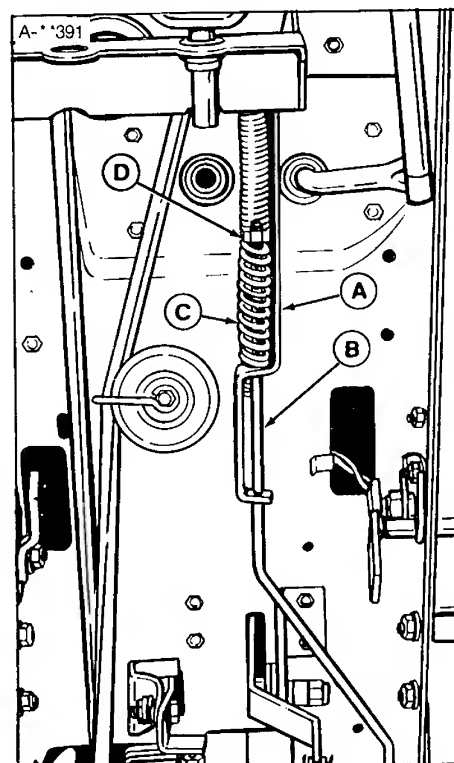

Figure 28. Brake Adjustment
3. With the rod guide (A, figure 28) on brake rod as far rearward as slot will allow, the nut (D) should be snug against spring (C) but spring should still be able to rotate. Tighten or loosen nut as necessary to achieve this.